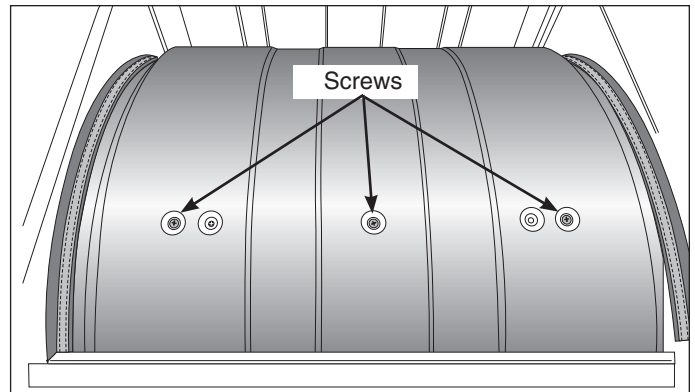

Figure 4-43.
2. Rotate the drum to access the screws on the exterior of the drum. While supporting the drum vane, use a #2 square bit screwdriver and extract the screws securing the drum vanes to the interior of the drum. (See Figure 4-43)